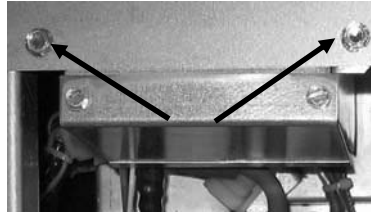

Figure 6
3. Loosen the two top screws attaching the module assembly to the frame (see Figure 6).